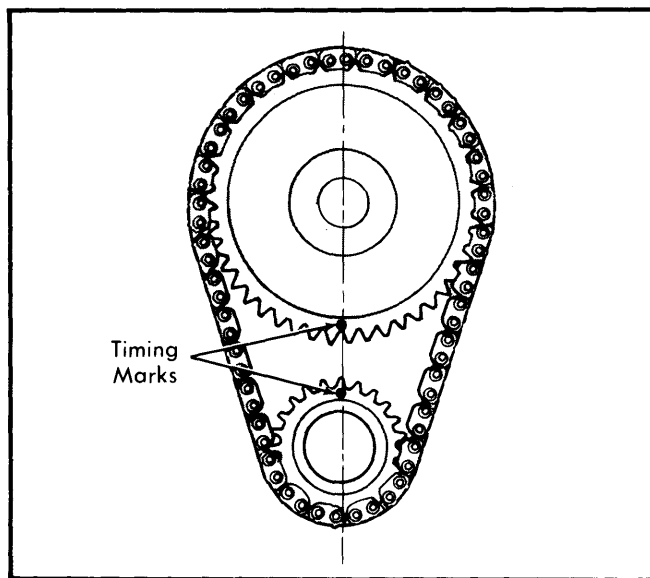

Fig. 9 Timing Chain Sprocket Alignment
Removal & Installation — 1) Crank engine until timing marks are aligned. See Fig. 9. Remove camshaft sprocket bolt and washer. Slide both sprockets and timing chain forward, removing them as an assembly.
2) Install timing chain on sprockets with timing marks positioned according to Fig. 9. Slide both sprockets and timing chain onto engine. Install camshaft sprocket bolt and washer. Tighten bolt and oil timing chain.